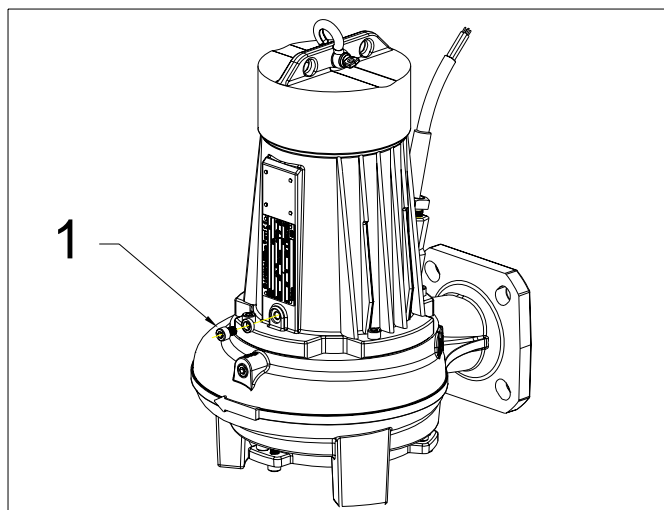

Fig. 7.5
Unscrew the inspection plug of the motorhousing (see Fig. 7.5 pos 1).